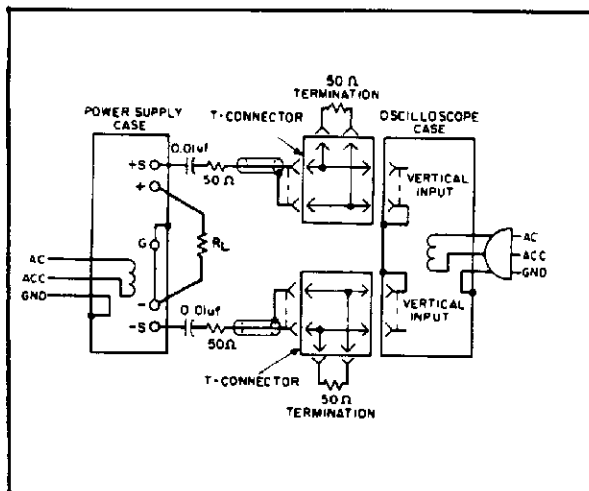

Figure 5-3. Noise Spike Measurement Test Setup
1. As shown in Figure 5-3, two coax cables must be substituted for the shielded two-wire cable.
**5-30** The circuit of Figure 5-3 can also be used for the normal measurement of low frequency ripple. Simply
remove the four terminating resistors and the blocking capacitors and substitute a higher gain vertical plug-in for the wide-band plug-in required for spike measurements. Notice that with these changes, Figure 5-3 becomes a two-cable version of Figure 5-2B.